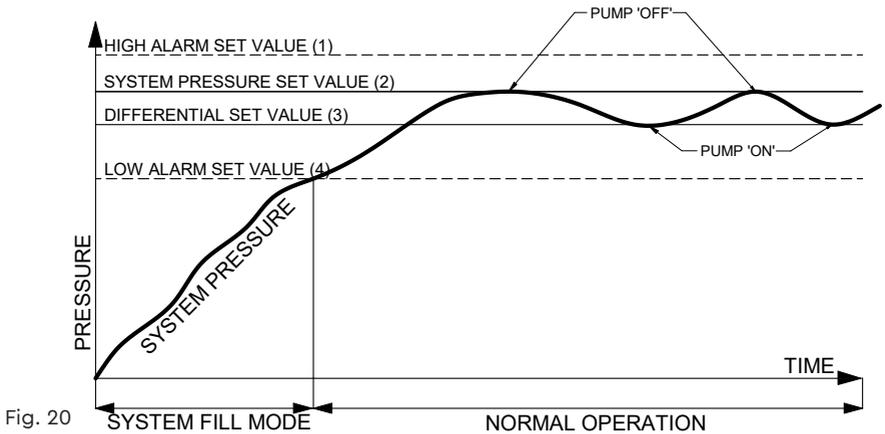

Fig. 20
<p>System pressure (2) see Fig. 20</p>	<p>Sets the required system pressure. Set in 0.1 bar increments up to the maximum set value for the SPU model. SPU 130 & 230, 3.5 bar max., SPU 150 & 250, 4.1 bar max.</p>
<p>Differential pressure (3) see Fig. 20</p>	<p>Sets the pressure the SPU will turn on at as the system pressure falls. Relative to the system pressure. Set in 0.05 bar increments below the System pressure (2), cannot be set above 0.1 bar below the System pressure (2).</p>
<p>Hi Alarm (1) see Fig. 20</p>	<p>Sets high system pressure alarm. Set in 0.05 bar increments above the System pressure (2). Cannot be set below System pressure + 0.5 bar. Alarm auto resets when system pressure is reduced below alarm level.</p>
<p>Lo Alarm (4) see Fig. 20</p>	<p>Sets low system pressure alarm. Set in 0.05 bar increments below the System pressure (2) – Differential pressure (3) – 0.05 bar. Alarm auto resets when system pressure is increased above alarm level</p>